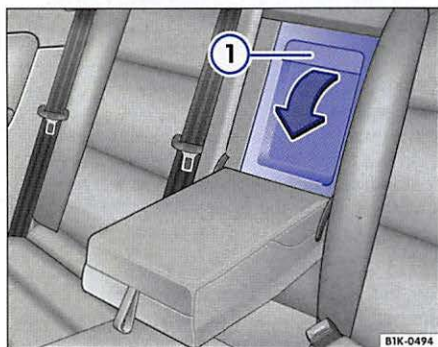

Fig. 85 In the rear seat backrest: Opening the luggage compartment pass-through.
- Pull the release lever $\Rightarrow$ fig. 85  and fold the pass-through cover all the way forward.